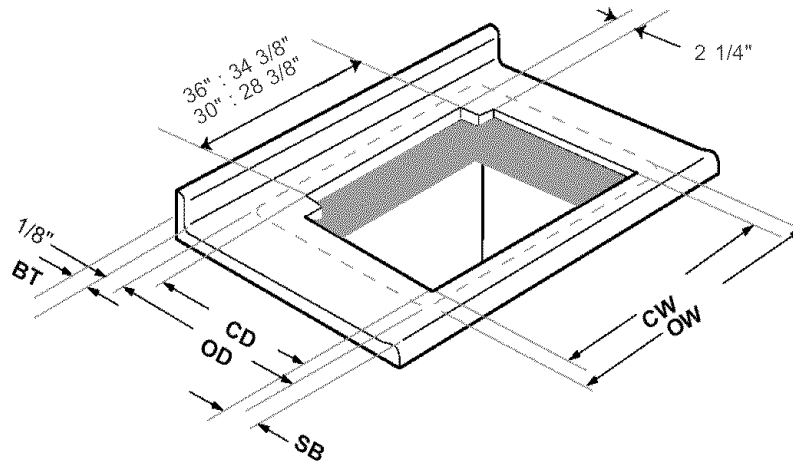

Figure 8
B. FOR INSTALLATION WITH ANOTHER BRAND OF COOKTOP (Figure 8)
See Figure 8 for UCV cutout widths and dimension definitions.
6. Cut countertop using dims: CD, CW and SB as defined in Figure 8.